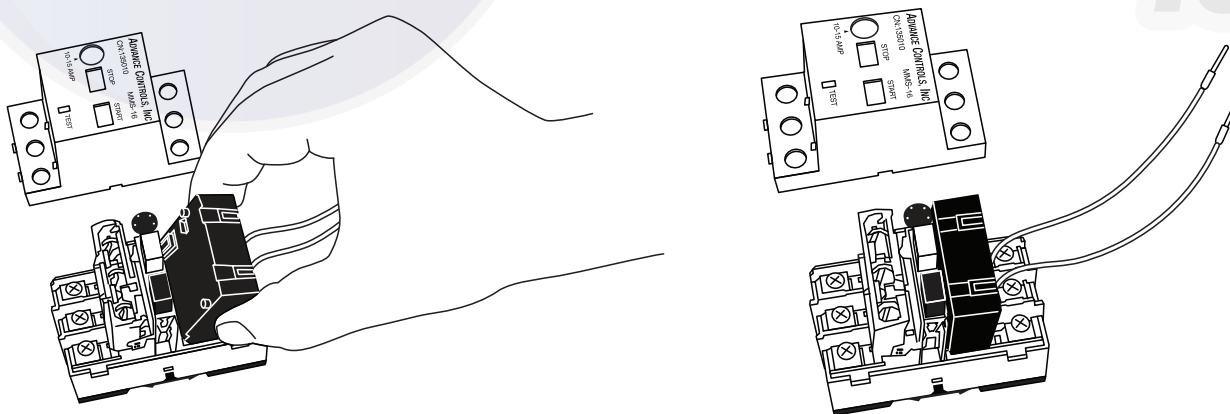

Fig. 117 — Installing the Shunt Trip (ACI Part No. 135046)
5. Install the shunt trip into the MMS as shown in Fig. 117.